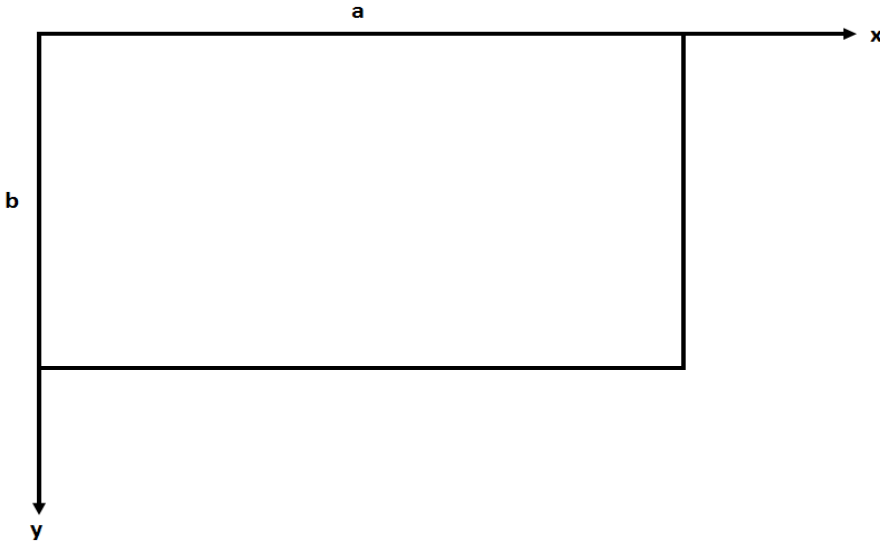

Fig. Q 3 (d)
- d) Determine the maximum deflection and bending moments of a simply supported plate as shown in Fig. Q 3 (d) due a uniformly distributed load q_0 . (12 marks)